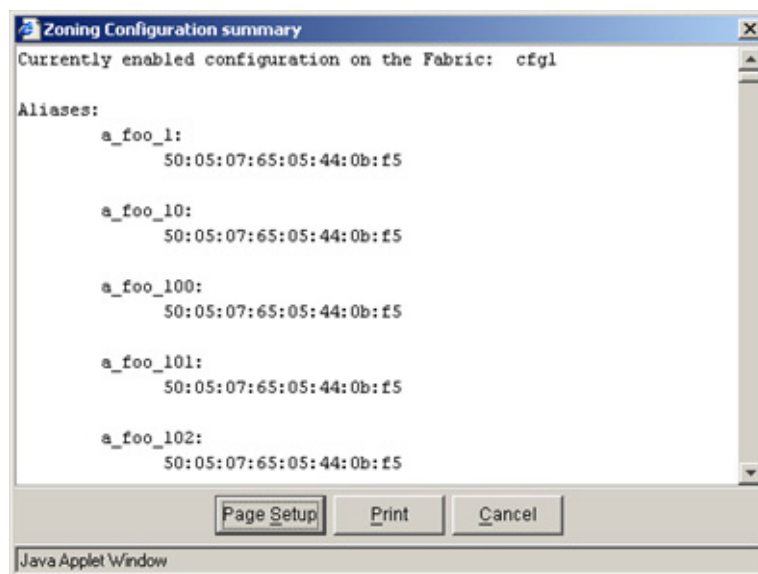

Figure 6-1 Zone Configuration Summary
2. Select **File > Print Summary**. The **Zone Configuration summary** dialog box appears. An example of the **Zone Configuration summary** is shown in Figure 6-1.